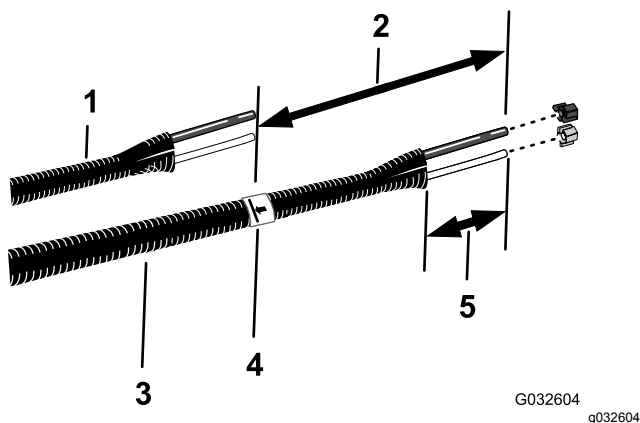

Figure 22
6. Align the old liquid and air tubes (Figure 22) to the new tube assembly (Toro Part No. 114-9553).
8. At the new tube assembly, add 26 cm (10 inches) length from the mark that you made in step 7, mark the tube assembly, and cut the tubes at the second (longer) mark (Figure 22).
10. Remove 77 to 102 mm (3 to 4 inches) of the sheathing from around each end of the tube assembly (Figure 22).